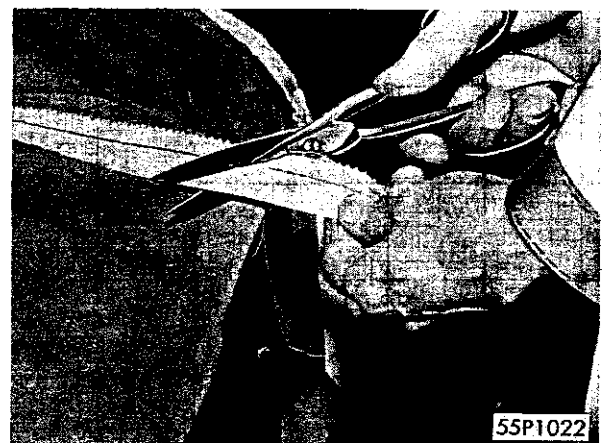

Fig. 41—Trimming Excess Listing even Edges of Headlining
(1) Remove each bow from the old listing.
**NOTE:** Before installing the bows in the new headlining, trim the excess listing even with the edges of the headlining, as shown in Figure 41.